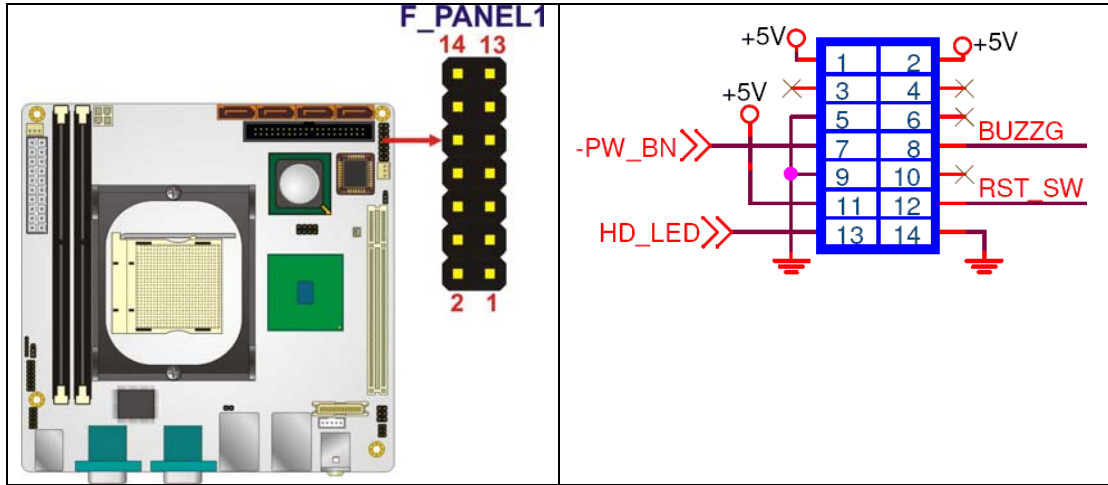

Figure 4-6: Front Panel Connector Pinout Locations
- CN Location:** See Figure 4-6